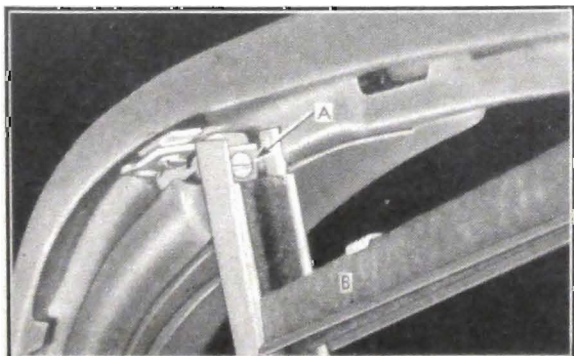

Fig. 1-57. Division Channel Attachment—Upper
- 2. Release the clips in the door glass run channel adjacent to the center division channel and drop it down out of position as shown at "B", Fig. 1-57.